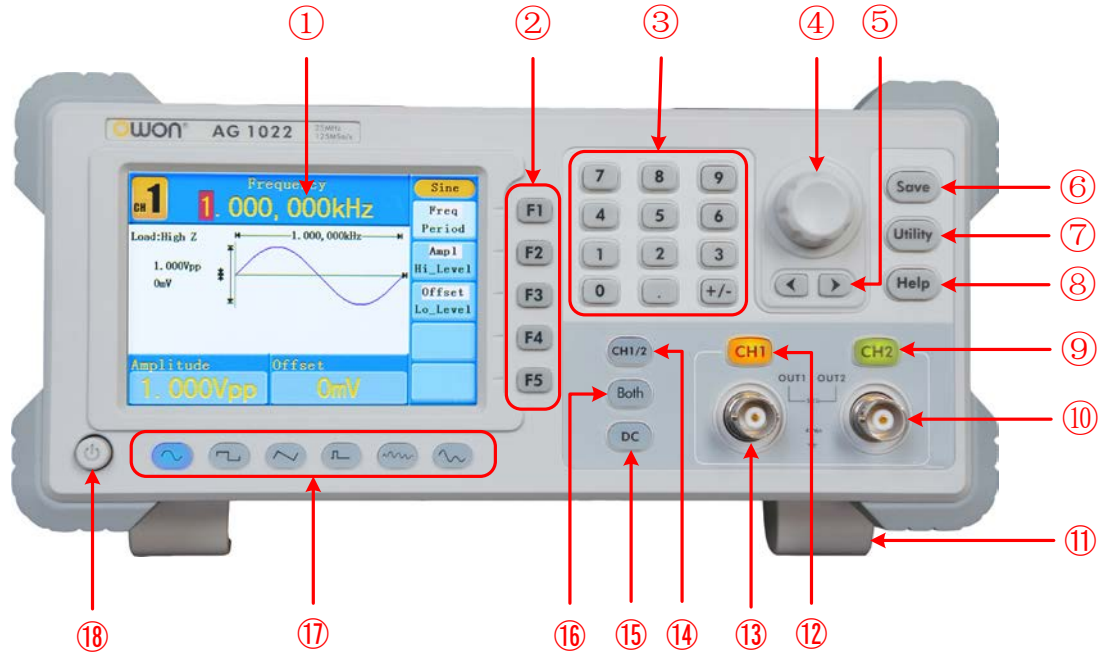

Figure 4-1 Front panel overview
Unfold the foot stools on the bottom of the generator, as ⑪ in *Figure 4-1*.